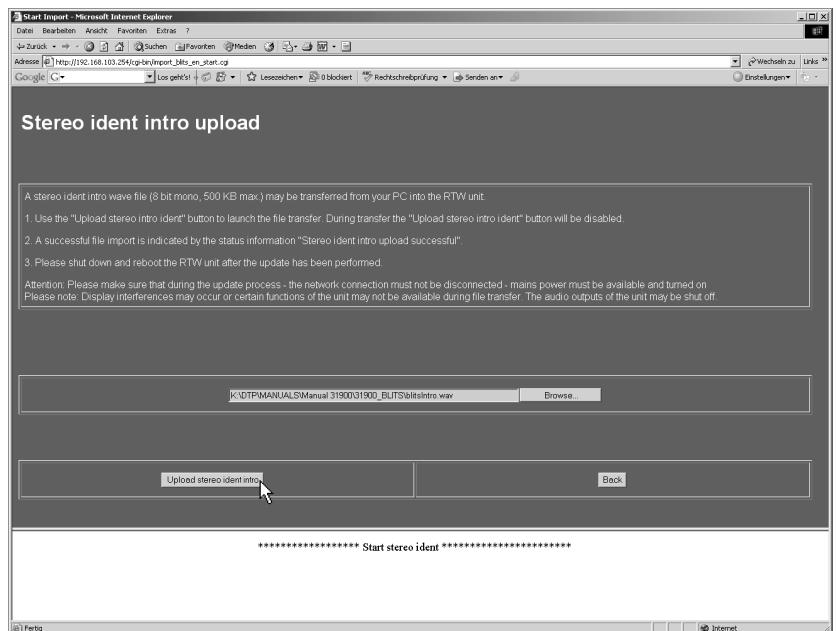

Fig. 8-36: Starting the upload
5. A click to the **Upload stereo ident intro** button starts the data transfer to the SurroundControl units (see Fig. 8-36). If the **Upload stereo ident intro** button is not visible move the menu page upward by using the scrollbar on the right. **Please make sure that no interruption of the network access or supply power occurs during the download sequence.**